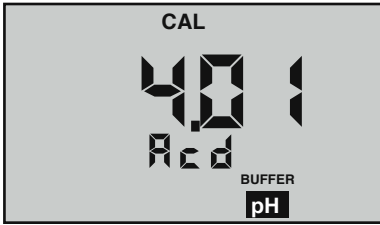

Figure 6
2. At this point the “CAL”, “BUFFER” and “Acid” or “bAS” annunciators will be displayed (see Figures 6 and 7).